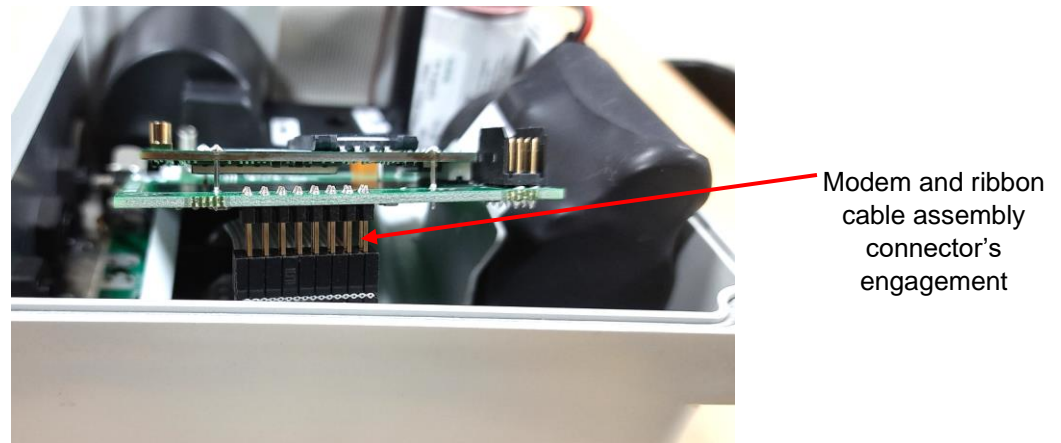

Fig. 30: Ribbon cable assembly socket connection with modem assembly X5 header connector interface
- Take the new modem assembly and connect the ribbon cable assembly connector to the bottom X5 connector of the modem assembly. Pay special attention to correct engagement of all 16 pins of the ribbon cable assembly socket strip into the modem assembly X5 header strip. (see Fig. 30)